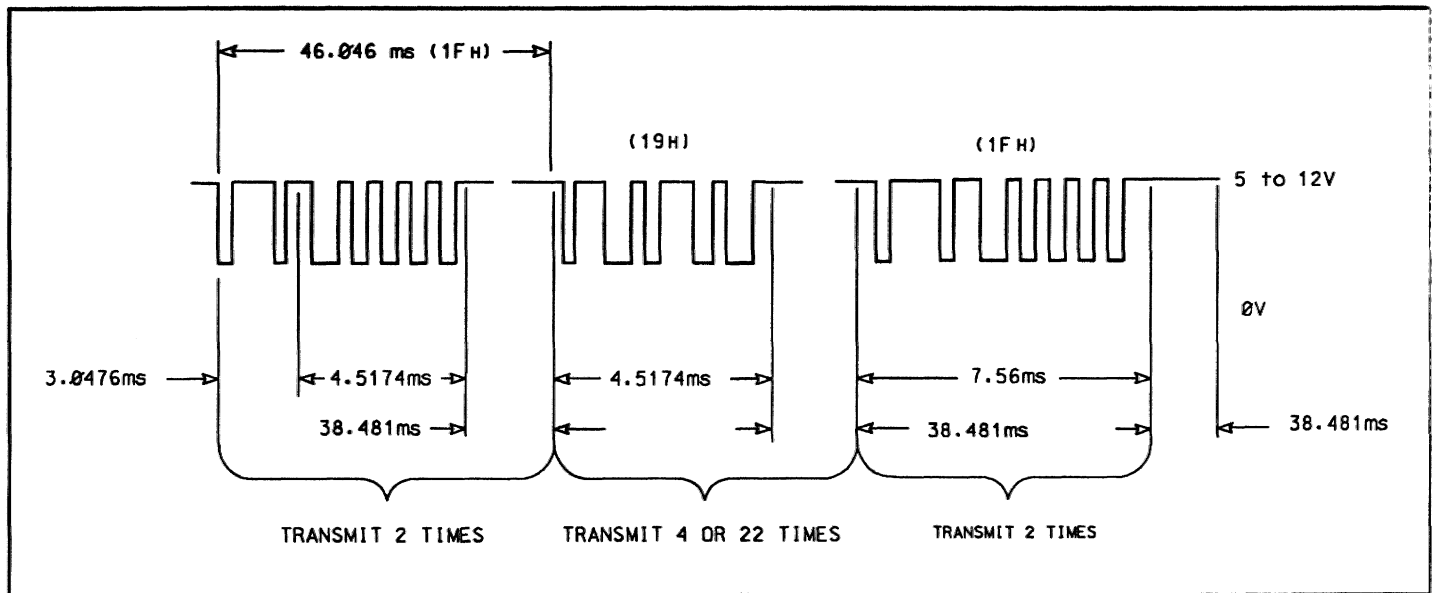

FIGURE A-1. Start and End Codes for Protocol 1 and 2
- Control signals must be terminated with two "End Instruction Codes" (hex 1F). Reference Figure A-1.